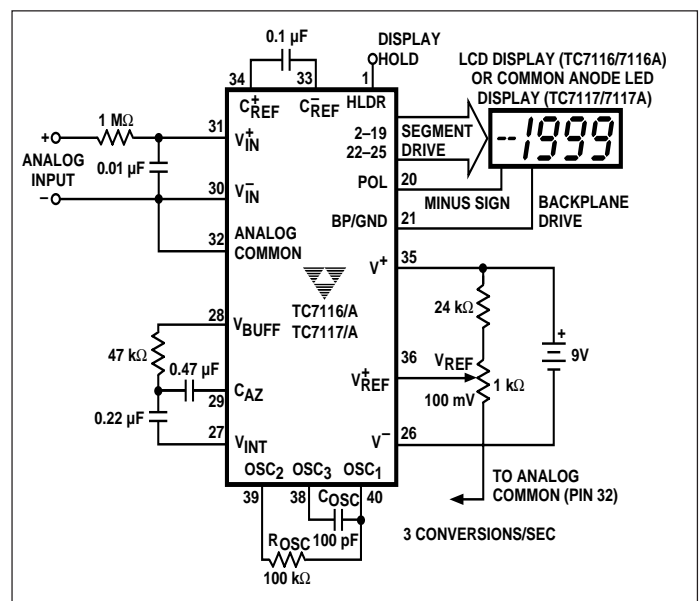

Figure 1. Typical TC7116/A/7/A Operating Circuit
3. Unless otherwise noted, specifications apply at T_A = +25°C, f_{CLOCK} = 48 kHz. TC7116/TC7116A and TC7117/TC7117A are tested in the circuit of Figure 1.